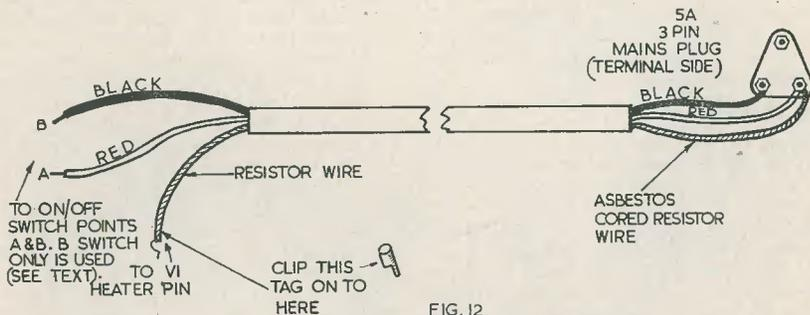

FIG. 12
Line cord is obtainable in various ratings—0.3A, 0.2A, 0.15A etc—in both two-way and three-way kinds. Three-way, as shown in Fig. 12, is normally used for receivers. It is connected as shown in the figure; note that, when line cord is used, the upper (A) contacts of the on/off switch are omitted.